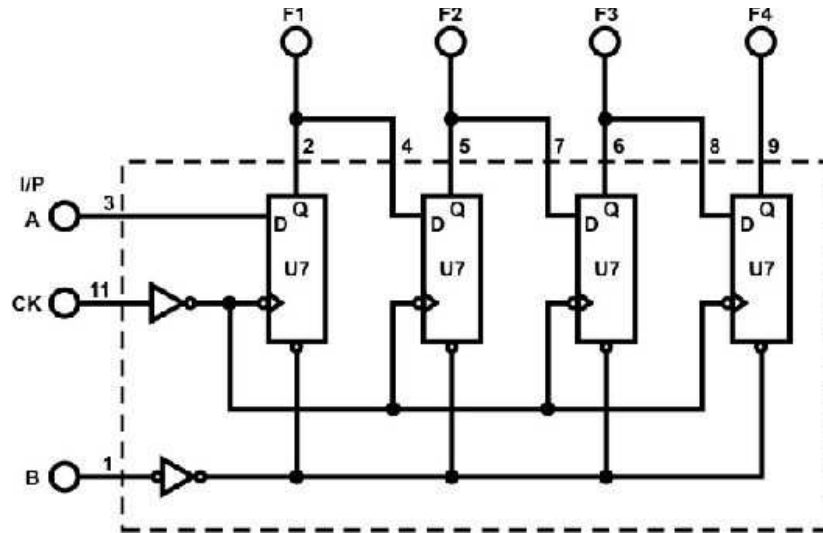

Figure 5.15: Shift Right Register.
- Block c of module KL-33008 will be used to construct the circuit shown in Figure 5.15.